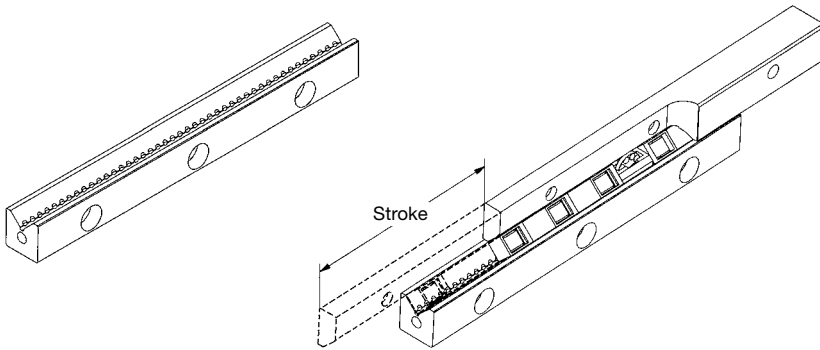

fig 11A
LWRE ACS rail guide for **maximum travel** of the rail system (see fig 11A):
- (see fig 11A)